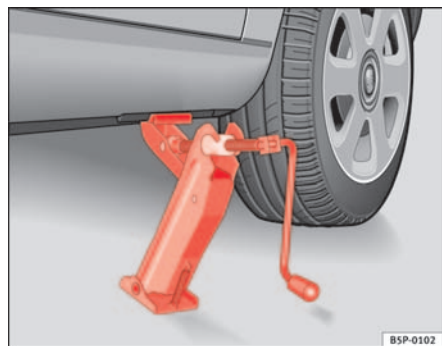

Fig. 175 Fitting the jack
- Align the jack so that the arm of the jack fits around the rib under the door sill and the movable base plate of the jack is flat on the ground ⇒ fig. 175.